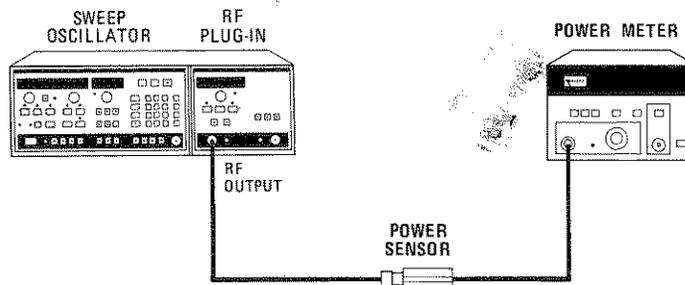

Figure 4-2. Output Amplitude Test Setup (Using HP 436A Power Meter)
1. Connect equipment as shown in Figure 4-2.